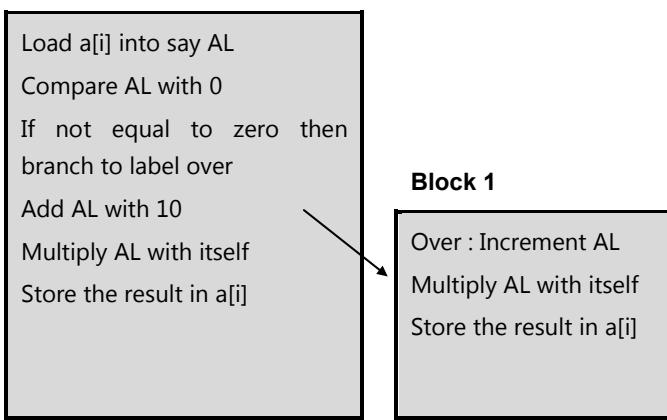

Fig. 10.9.4
- Since the path 1-2-4 is the most probable path, this will make the trace. The path 1-3-4 will be a separate block. This is shown in the Fig. 10.9.4.